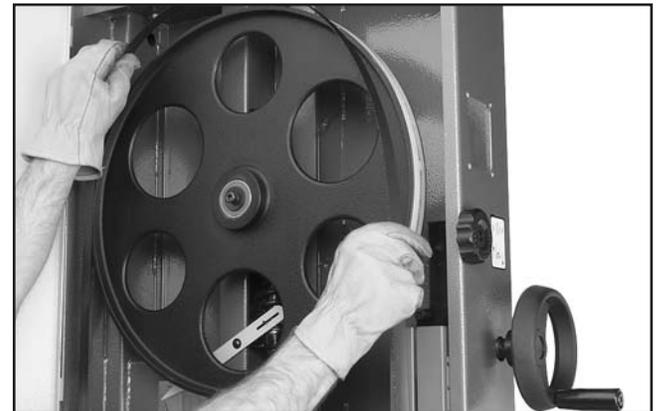

Figure 48. Placing blade on the wheels.
2. Slip the blade through the guides, and mount it on the upper and lower wheels (**Figure 48**), then tighten the blade tension lever.